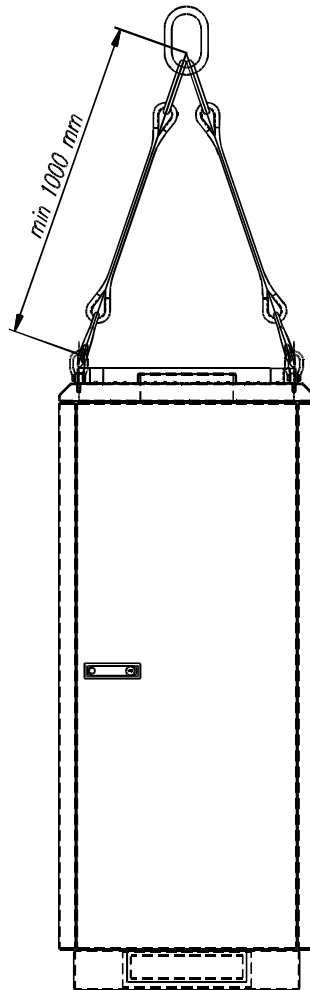

Figure 6. Lifting the cabinet by crane
- Step 5 Connect hang lines (length min 1000 mm) to the 4 lifting eye installed on the roof and lift the cabinet onto the position by crane (Fig 6).